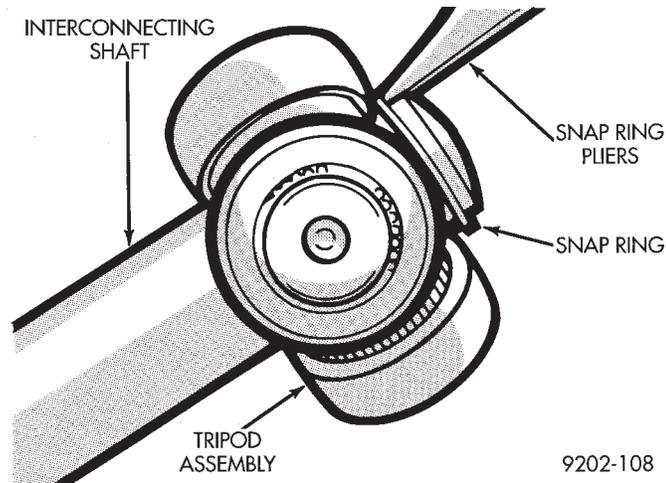
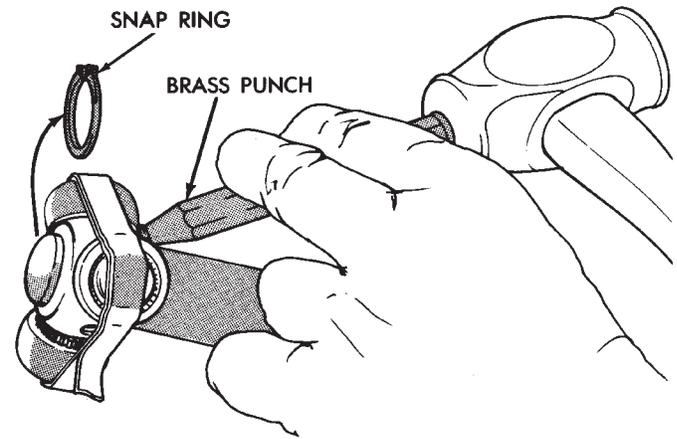
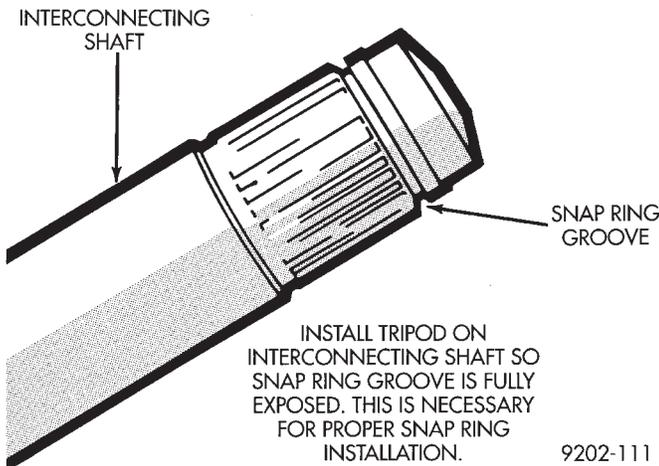

Fig. 4 Outer Tripod Retaining Snap Ring Removal G.K.N. WITH DOUBLE RING TRIPOD RETENTION.
Fig. 5 Tripod Assembly Removal From Interconnecting Shaft
Fig. 8 Interconnecting Shaft Snap Ring Groove
CAUTION: When removing the housing from the tripod, hold the rollers in place on the trunnion studs to prevent the rollers and needle bearings from falling away. After the tripod is out of the housing secure the rollers in place with tape (Fig. 4).
Remove the tripod assembly to interconnecting shaft retaining snap ring from the interconnecting shaft end groove (Fig. 4). Remove the tripod assembly from the interconnecting shaft by hand or by tapping the body of the tripod assembly with a brass punch (Fig. 5).
(2) Remove the tripod assembly from the interconnecting shaft. Tripod can be removed either by hand or by tapping the tripod body with a brass drift (Fig. 5). Do not hit the outer tripod bearings in an attempt to remove tripod assembly from interconnecting shaft.
(1) Fasten the (new) boot to the interconnecting shaft. See Boots Install.
(2) Install the tripod assembly onto the interconnecting shaft until it is past the snap ring groove on the shaft (Fig. 8). If required the tripod assembly can be tapped onto the interconnecting shaft using a brass drift, on the body of the tripod assembly (Fig. 4). Do not hit the outer tripod assembly bearings in an attempt to install tripod on interconnecting shaft.
(3) Install a **NEW** outer tripod assembly to inter-